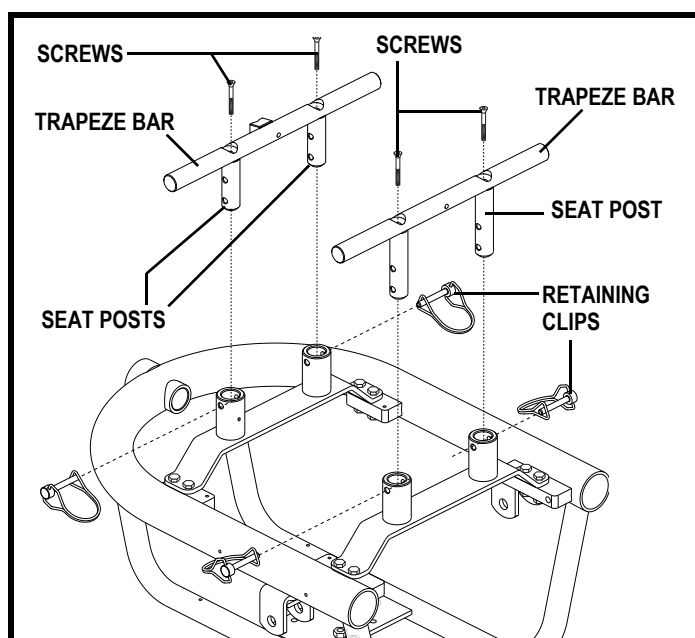

Figure 16. Trapeze Bar Location
7. Loosen the screws that attach the trapeze bars to the seat posts. **See figure 16.**
8. Remove the retaining clips that secure the seat posts to the power base. **See figure 16.**